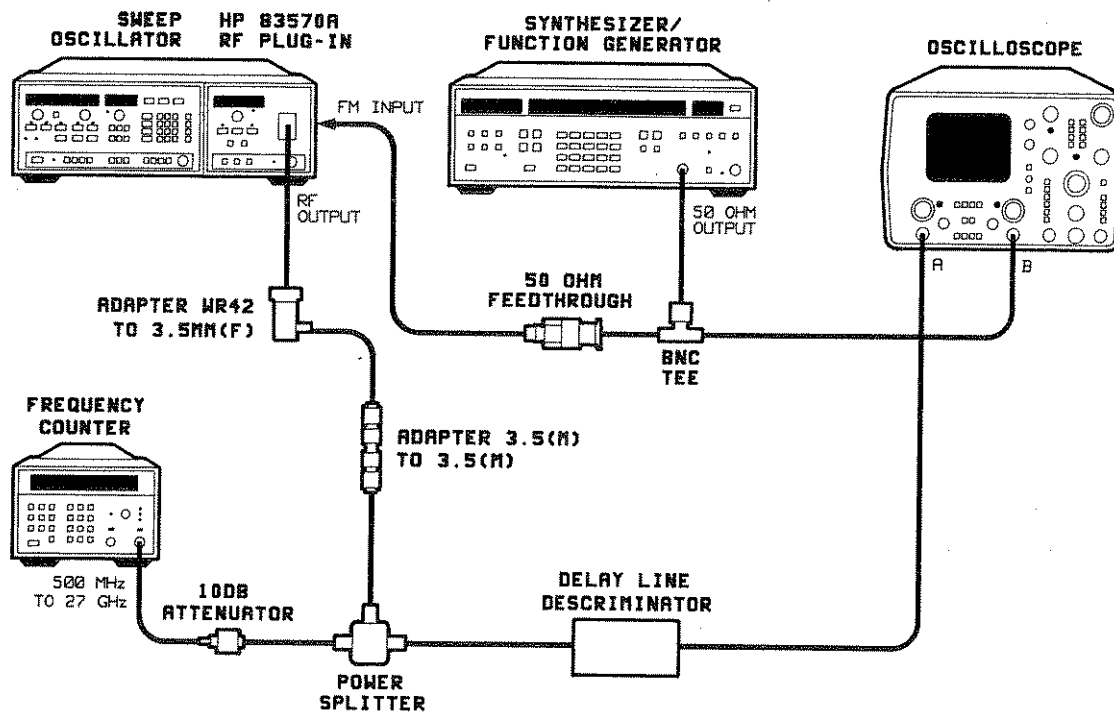

Figure 4-9. Test Setup for >100 Hz Frequency Modulation
- Connect the equipment as shown in Figure 4-9. Do not connect the function generator/synthesizer.